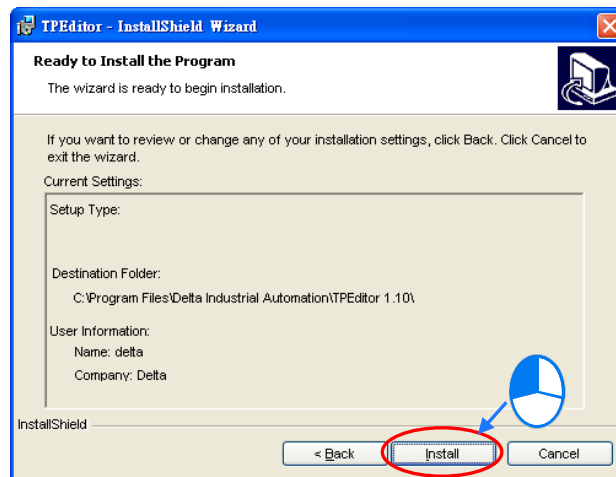

Figure 1-5 Process of installing TPEditor
(7) Check the installation information, and then click **Install**, as shown in Figure 1-5.